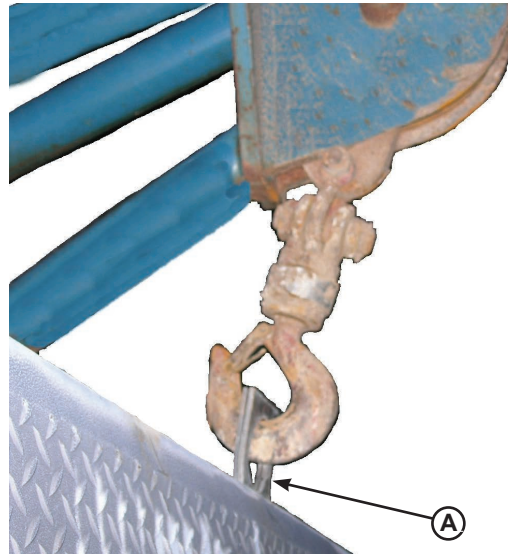

Figure 8
3. Attach lifting chains to lifting brackets (**A**) and to a lifting device (i.e., hoist or fork truck) having the appropriate lifting capacity and reach (see Figure 8).